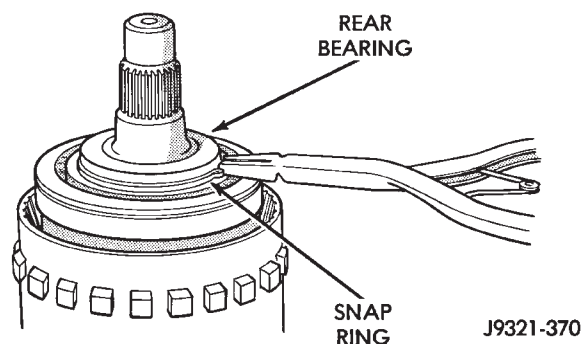

Fig. 39 Rear Bearing And Snap Ring Installation
(7) Install rear bearing and snap ring on output shaft (Fig. 39). Be sure locating ring groove in bearing is toward rear.